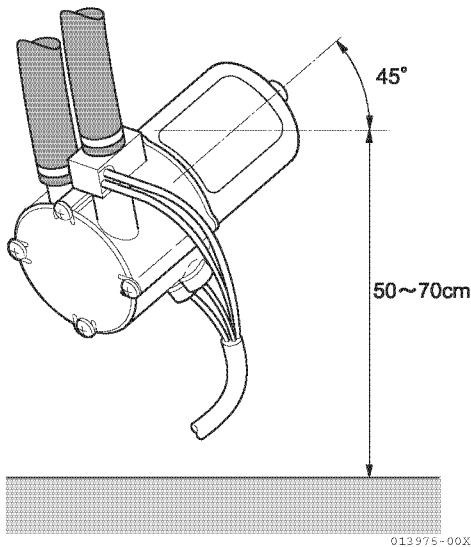

Figure 7-42
- Position at a 45° angle (**Figure 7-42**) with the nozzle facing up, and 50-70 cm (19.7-27.6 in.) from the bottom of the boat.